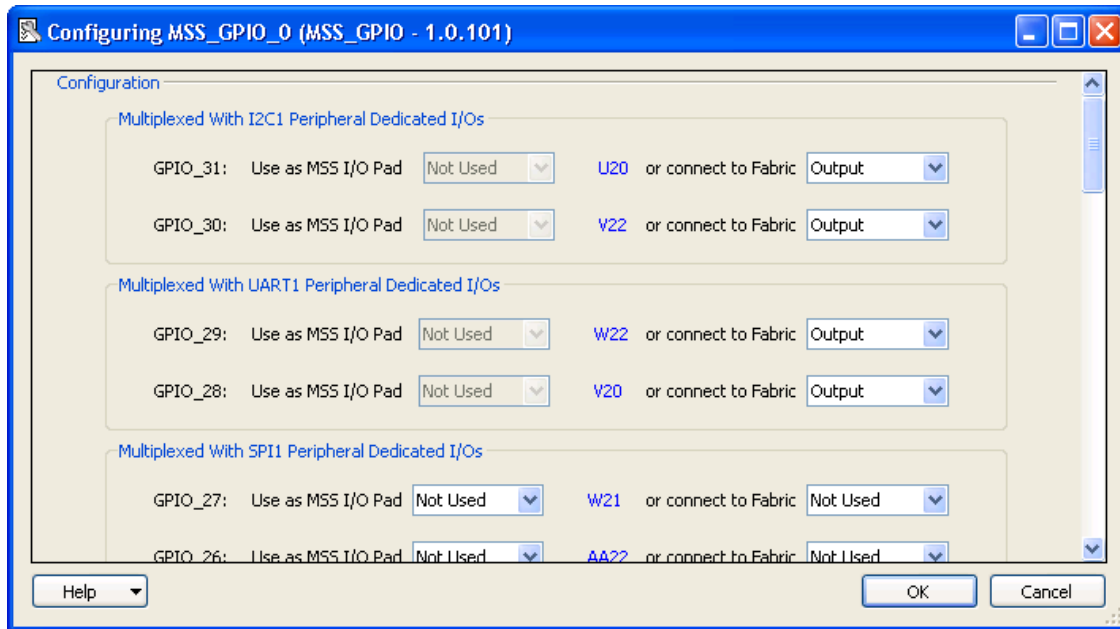

Figure 52 · Configure MSS_GPIO_0
1. Double-click the **GPIO** block in the **MSS component**, configure as shown in Figure 52 , and click **OK**.